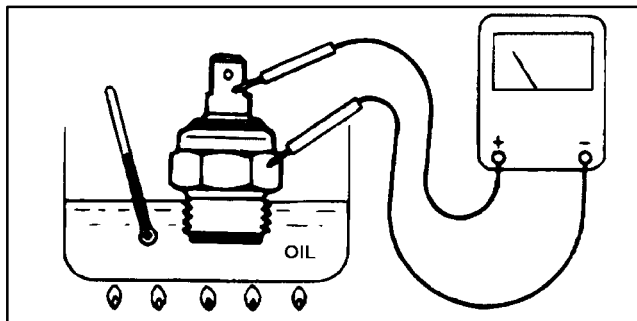

Figure 6
2. Put the switch in a container of oil with a thermometer and slowly heat the oil (Fig. 6).